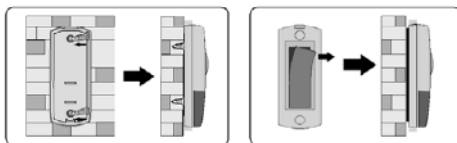

Fig. 2
- Peel back one side of the pad and attach to the bell push, then peel back the rear of the pad and attach to the desired surface (see Fig. 2)